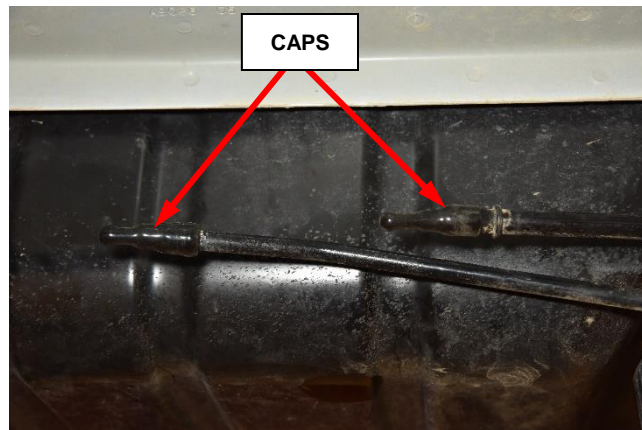

Figure 5 – Cap Fuel and Vapor Tubes
37. Cap the fuel and vapor tubes to prevent fuel vapors (Figure 5).